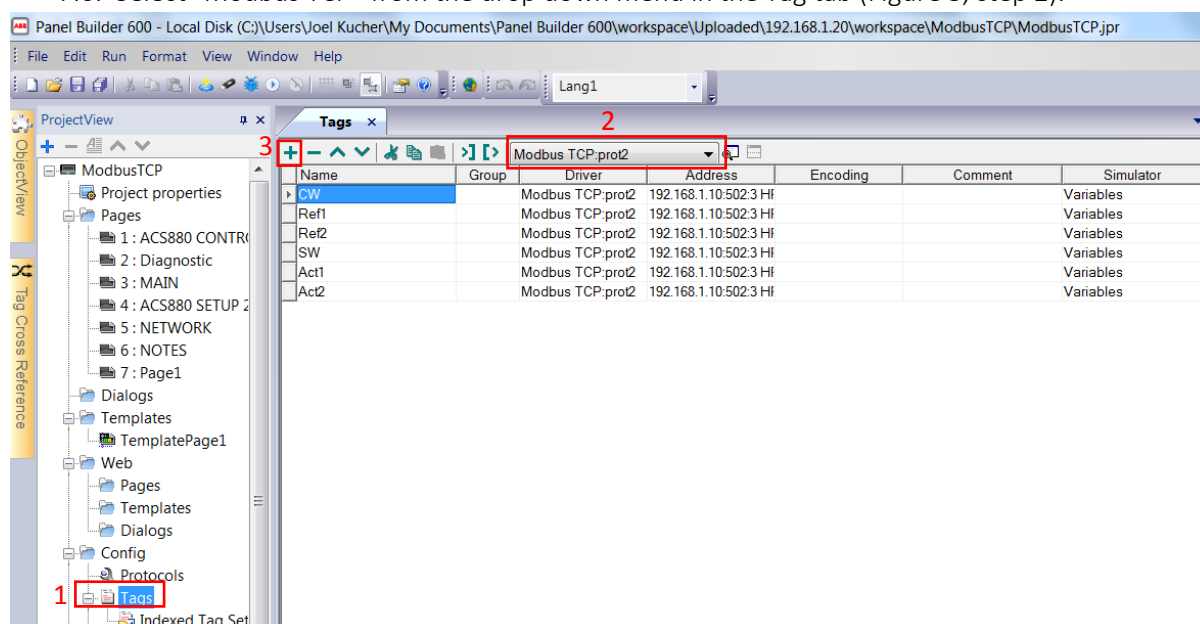

Figure 3- Creating tags
- 7.5. As shown in Figure 3 create tags for the CP600 project. First, double click “*Tags*” in the Project tree to open the “*Tag*” tab.
- 7.6. Select “*Modbus TCP*” from the drop down menu in the Tag tab (Figure 3, step 2).
- 7.7. Create 6 tags (Figure 3, step 3) and configure them per table 3. Note: to access the Modbus register setup click in the Address column for the tag you wish to edit and then click the ellipsis [...]